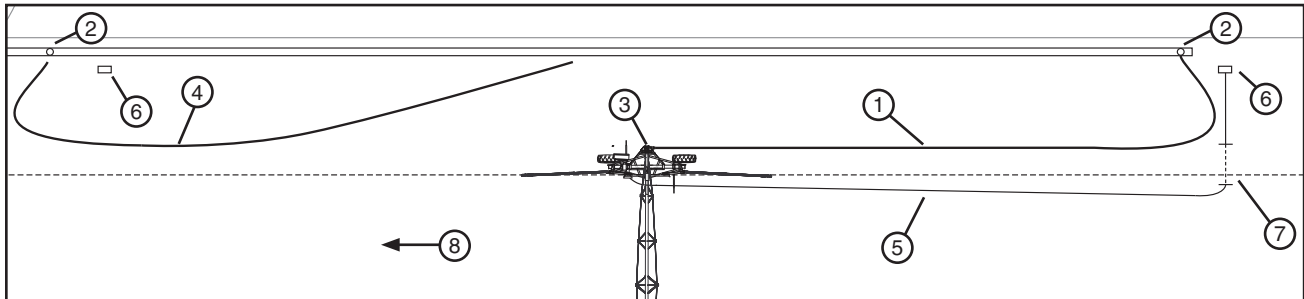

Figure 50-1 1. First Hose 4. Second Hose 7. Buried Power Cable
18. When the machine reaches the end of field/hose stop. Close the water shut off valve for the first hose. See figure 50-1.